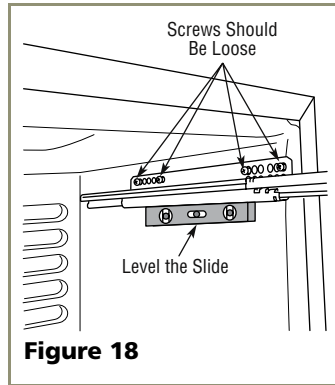

Figure 18
3. Retighten the screws. See **Figure 18**.